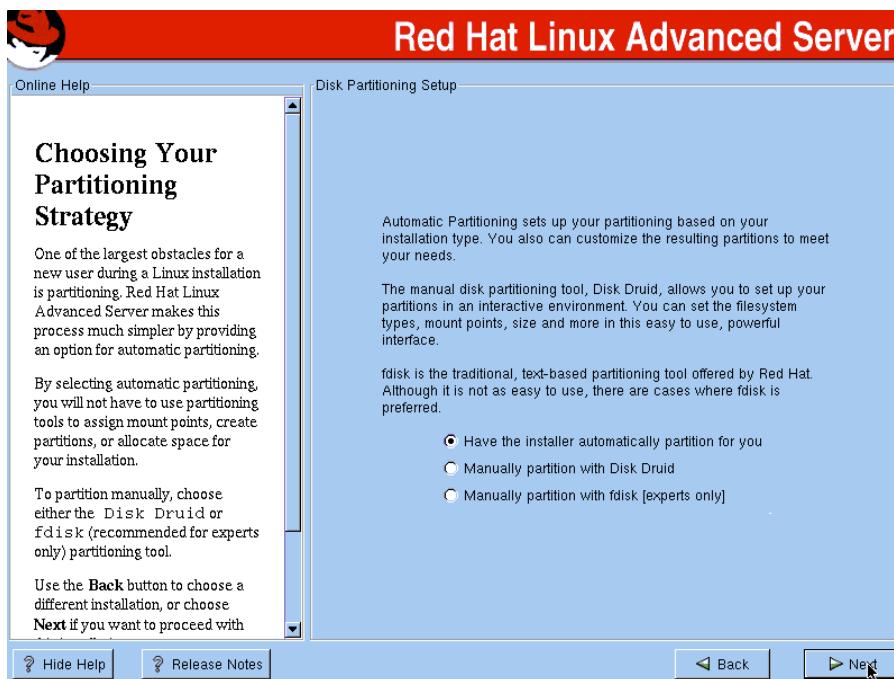

Figure 19. Disk partitioning Setup
- b. In the Disk Partitioning Setup screen, we chose to have the installer automatically partition the disk, as shown in Figure 19. Click **Next** to continue.